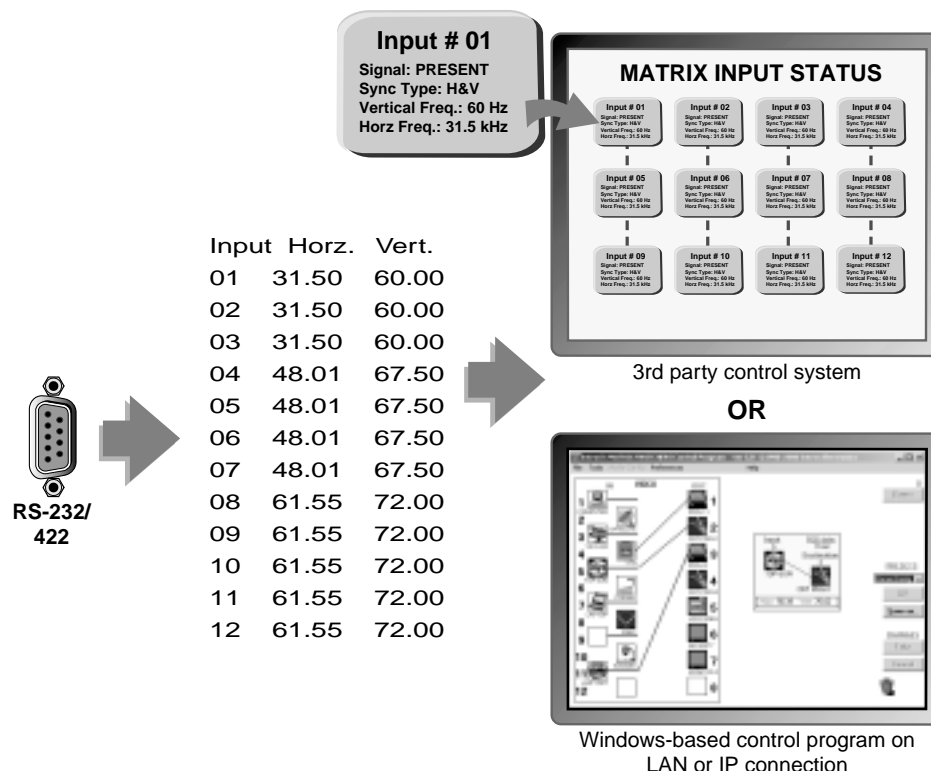

Figure 2 — DSVP data display
Digital Sync Validation Processing (DSVP™) — In critical environments or unmanned, remote locations, it is vital to know that sources are active and switching. Extron's exclusive DSVP confirms that input sources are active by scanning all sync inputs for active signals. DSVP provides instantaneous frequency feedback for composite sync or separate horizontal and vertical sync signals via the switcher's RS-232/422 port. The frequency information can be displayed on any third-party control system or in a Windows®-based control program on a local-area network (LAN) or internet (IP) connection (figure 2).